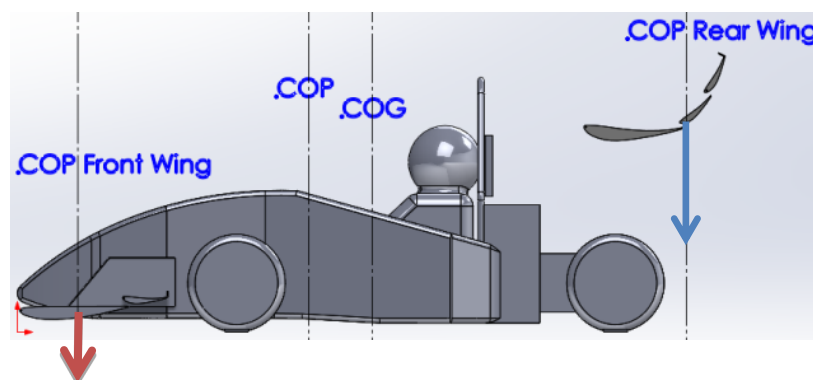

Figure 1— Aerodynamic Forces on car
**Centre of Pressure (COP) :** Net moment created by all aerodynamic forces (Figure 1)